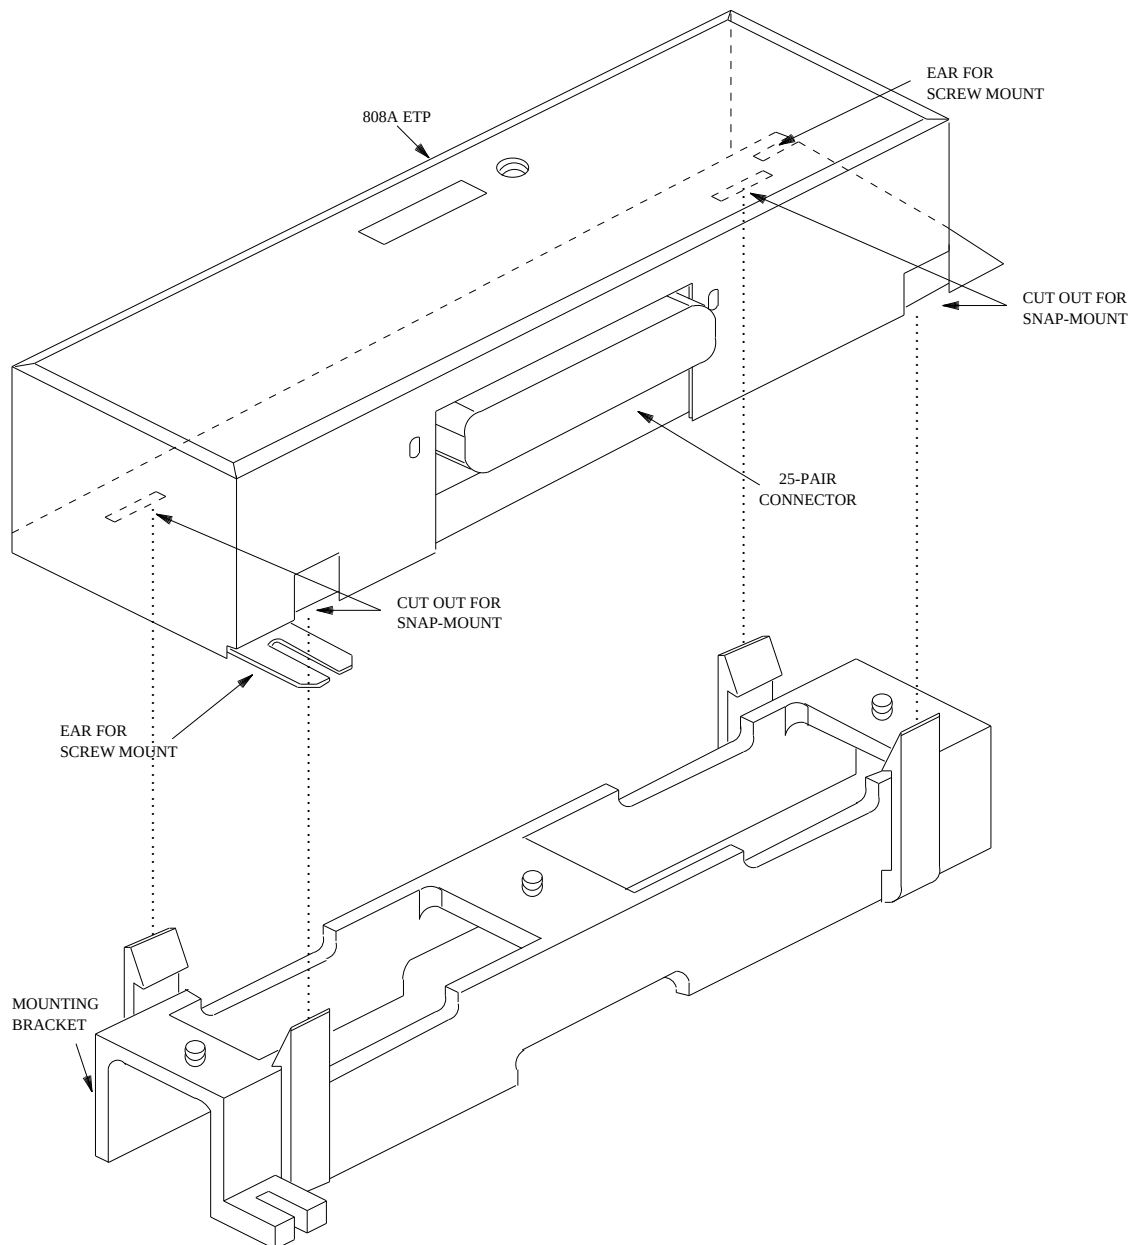

Figure 8-51. 808A EPT Mounting
The ETP can be installed on any mounting frame in either a vertical or horizontal position. The housing has ears for screw-mounting and cutouts for snap-mounting the unit in an 89-type mounting bracket (see Figure 8-51).
3. Connect a 25-pair cable between the male RJ21 25-pair connector on the ETP and the switch. Location of the connector is shown in Figure 8-51. Table 8-10 shows the pin assignments.